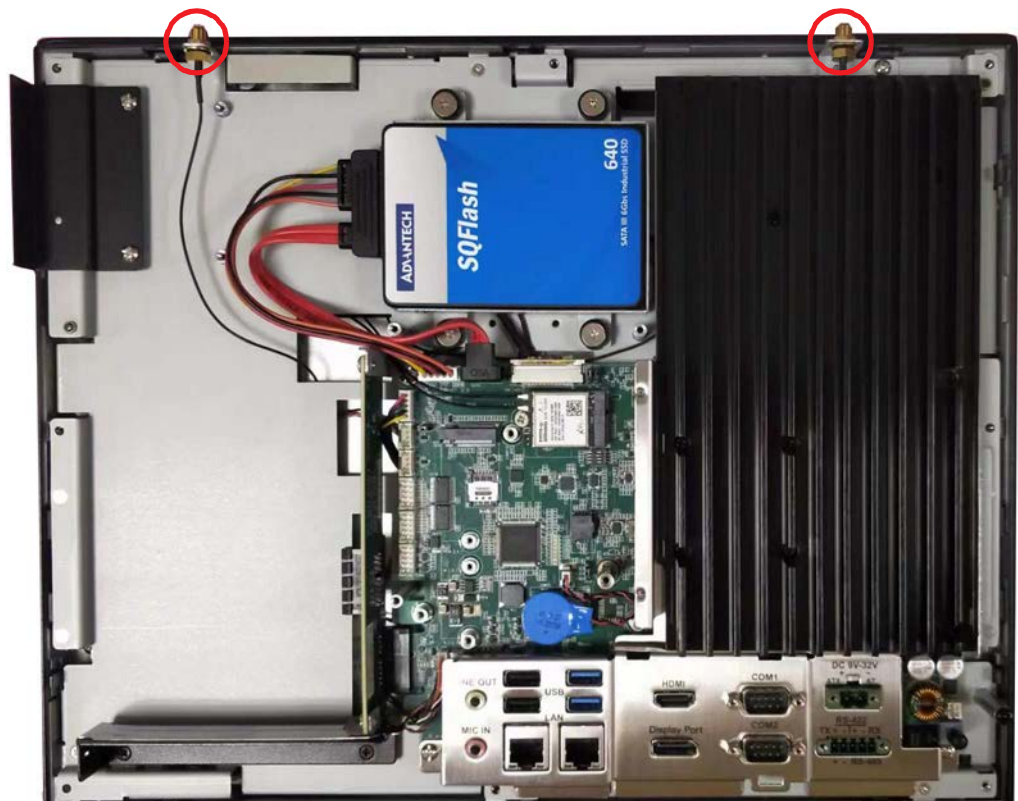

Figure 2.20
5. Secure the assembled antenna holder to the top of the panel PC. Then connect the cables to the wireless LAN card (see Fig. 2.20).